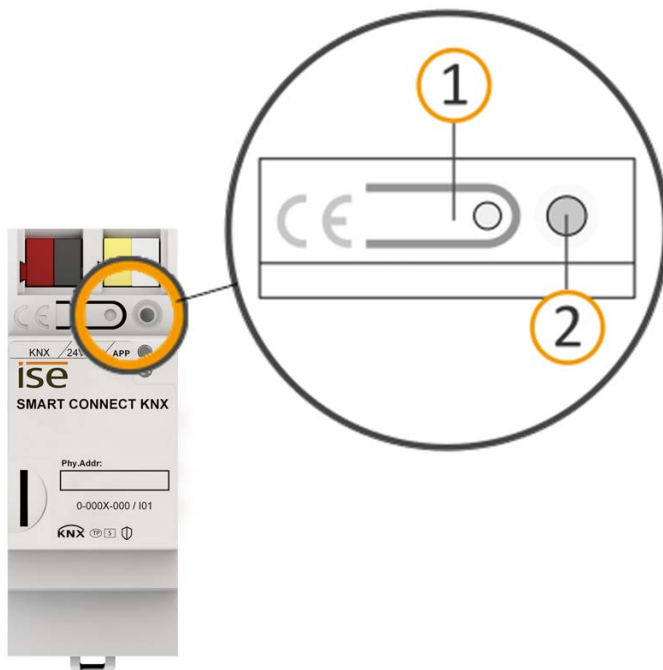

Figure 19: Programming
1. Briefly press the programming button (see figure 19, item 1). The programming LED (see figure 19, item 2) lights up red.
1. Press the programming button (see figure 19, item 1) and keep it pressed while you attach the power connection terminal.